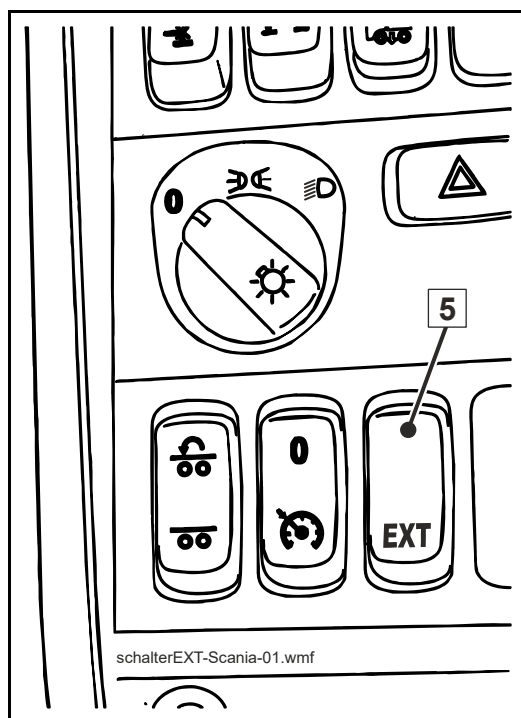

Fig. 44 SCANIA “EXT” switch
- Switch on the control system using the switch (5) (Fig. 44 SCANIA “EXT” switch).
Caption (Fig. 44 SCANIA “EXT” switch)